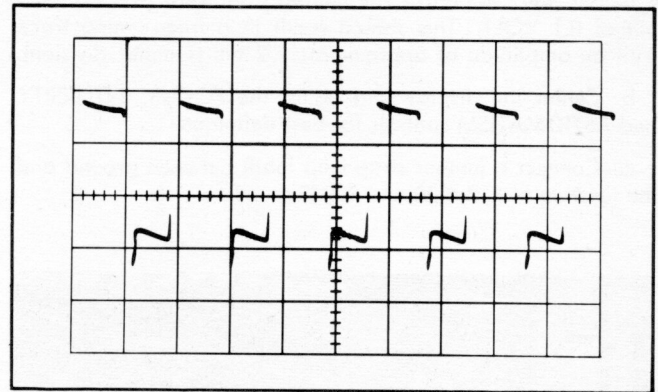

Fig. 6-3. Chopped blanking check with Crt Cathode Selector switch at Chopped. Vertical switching lines are blanked.
d. Switch the CRT CATHODE SELECTOR switch (on back panel of oscilloscope) to the CHOPPED BLANKING position and check that the fast rising and falling portions (switching portions) of the display are blanked so that only the "on" segments of each trace are visible (Fig. 6-3).